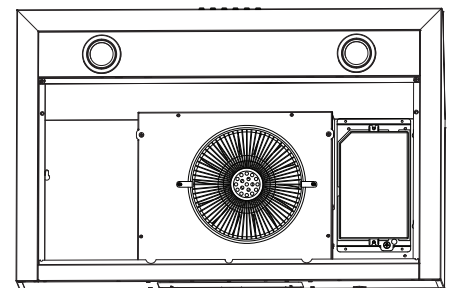

Figure 6
- **WARNING: ALL CONNECTORS MUST BE ENCLOSED IN THE PCB BOX (see Figure 6).**